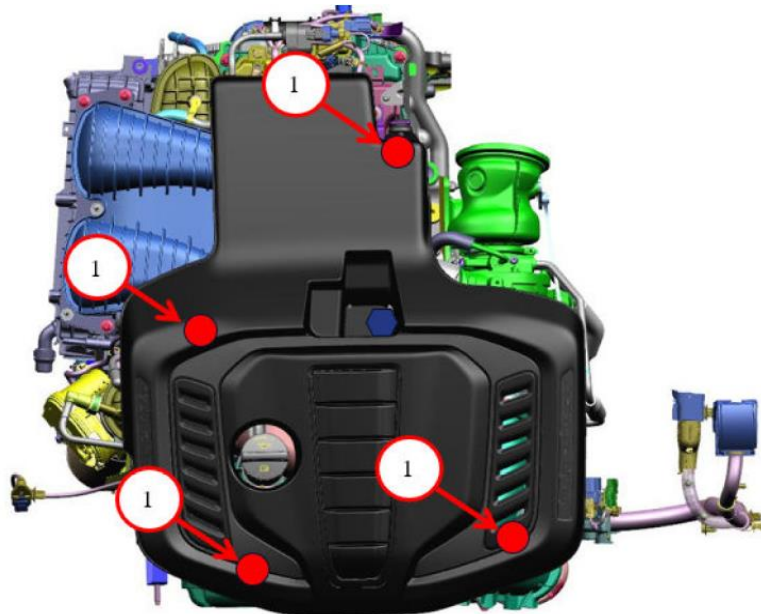

Figure 1 – Engine Cover Removal
2. Remove the four push-on engine cover fasteners (Figure 1).